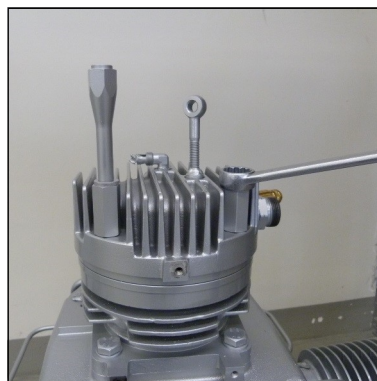

Fig. 6 - Remove special hexagon bolt
- Remove special hexagon bolt (Fig. 6).